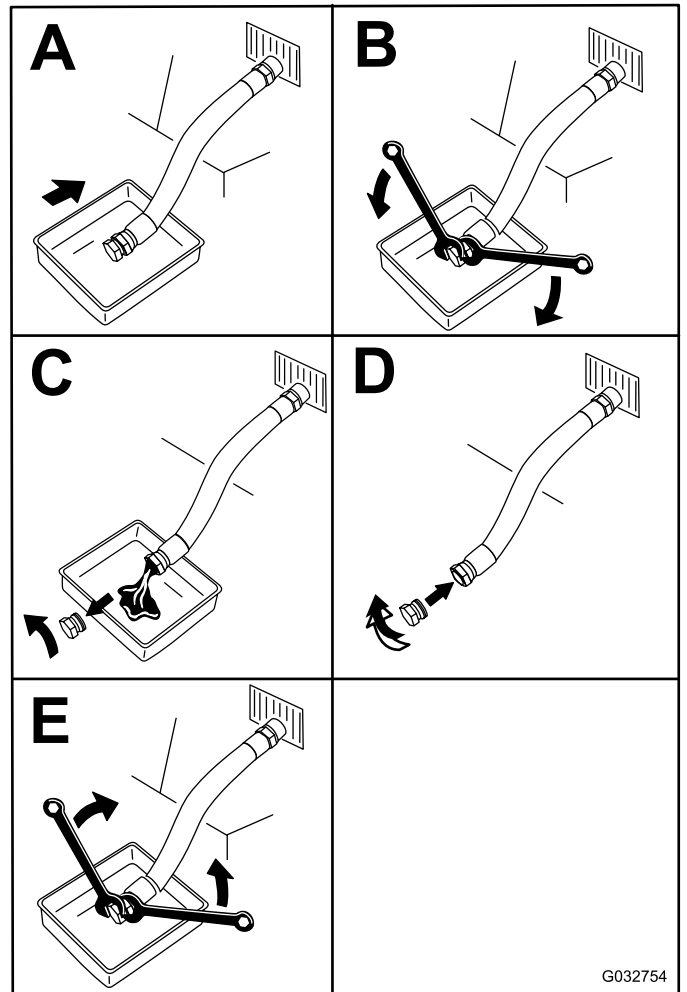

Figure 31
5. Change the oil (Figure 31).